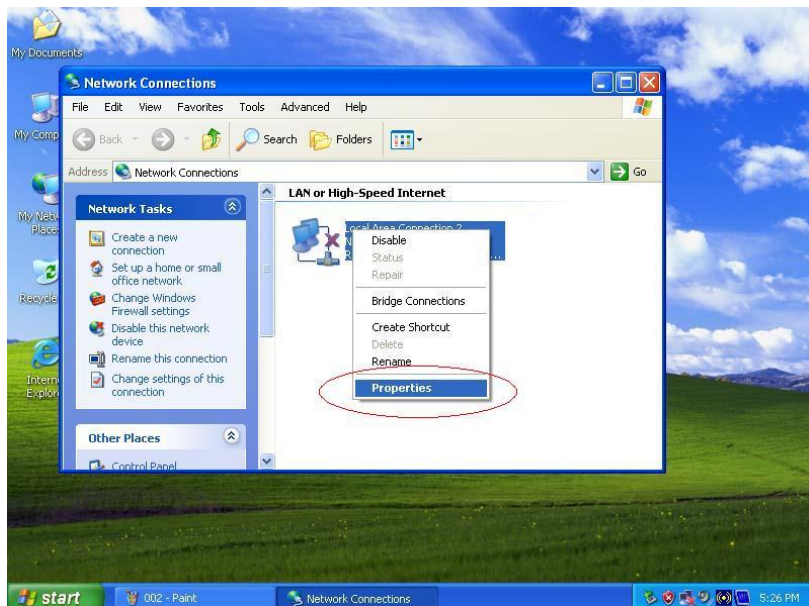

Figure 1.5
1.5 Go into Local Area Connection, right click on the mouse and go into Properties. See Figure 1.5